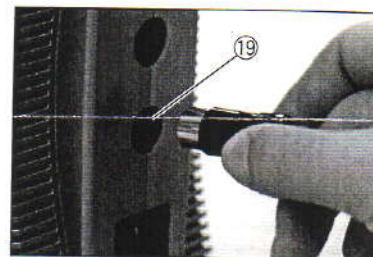

Fig. 5
Insert Foot Control ⑯ plug in Foot Control Connector ⑲ at the back of the control unit. (Fig.5)